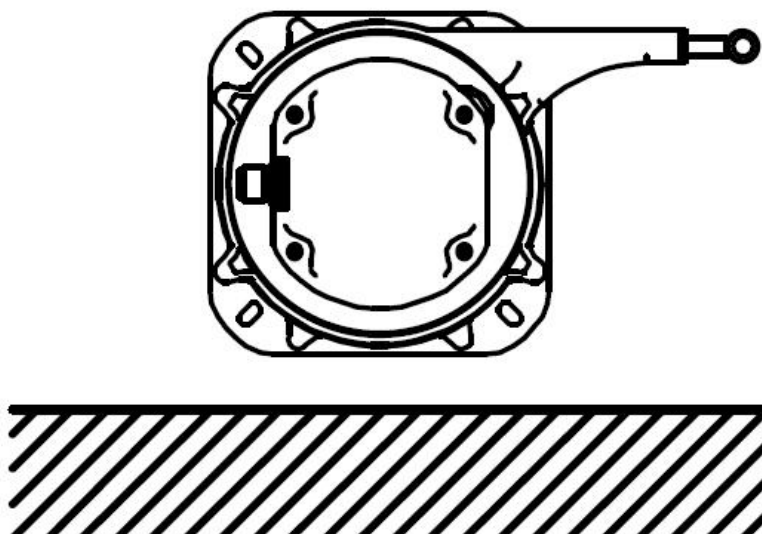

Figure 4.3-2
(2) When the centerline of the sensor is placed parallel to the horizontal plane as shown in Figure 4.3-2, the angular output value of the sensor is 0° . Rotating the sensor clockwise, the angle value increases; counterclockwise rotation of the sensor, the angle value decreases. Customers should determine the initial position of the sensor according to their own applications.